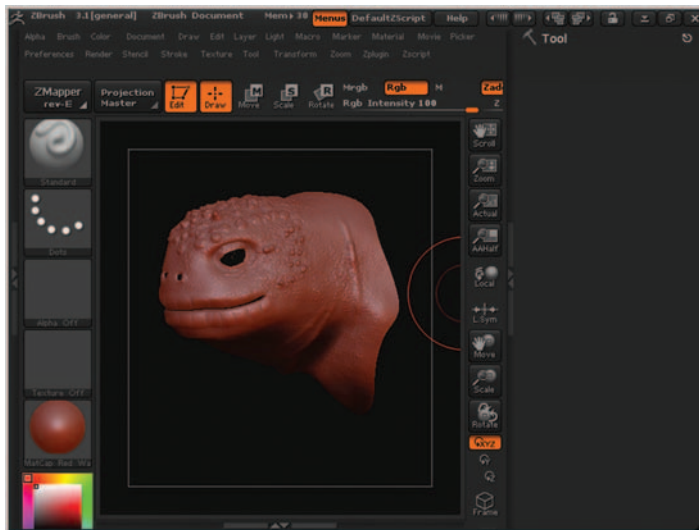

Figure 11.39 Mesh after being sculpted. This mesh will be used to generate a displacement map.
4. Sculpt the mesh with various brushes, alphas, and strokes as outlined at the beginning of this chapter. I recommend using masks as well. Figure 11.39 shows the mesh after a brief sculpting session.